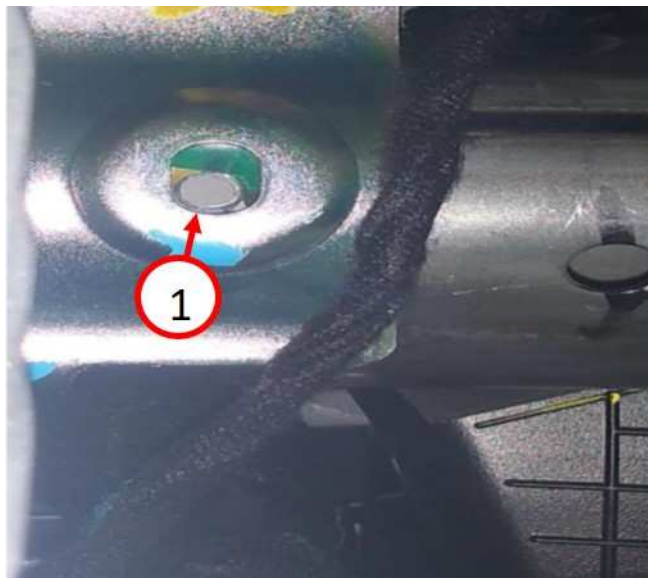

Fig. 3
2. If broken, remove broken/remaining portion of fastener still in the IP CCB (Fig. 3) .